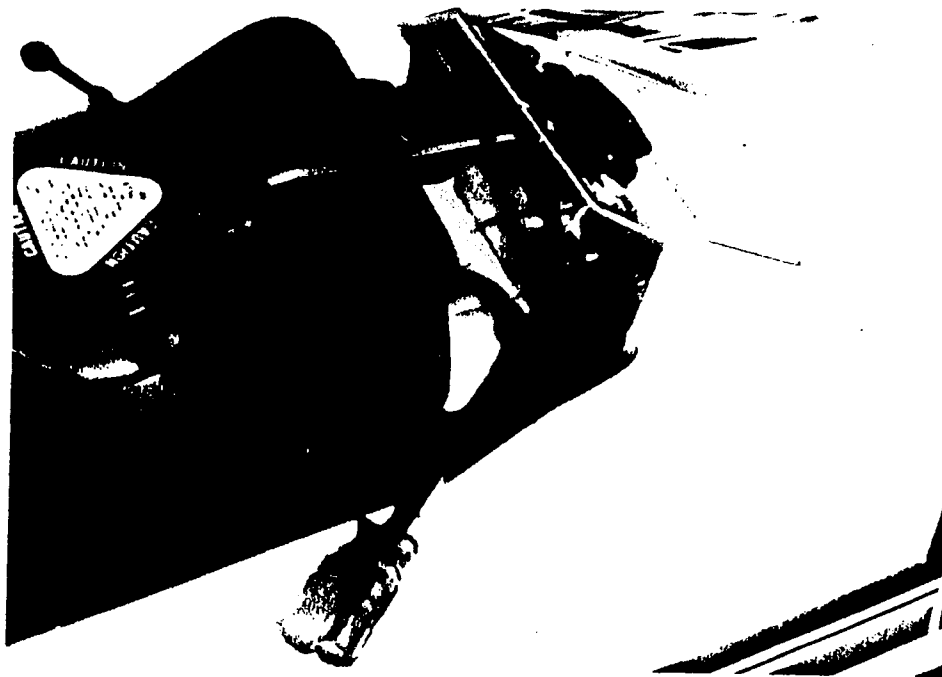

Figure 9-1. Removing The Fuel Strainer
2. Carefully pry out the rubber grommet holding the fuel pickup hose in the fuel tank. Be careful not to damage the grommet or the fuel tank. See figure 9-1.